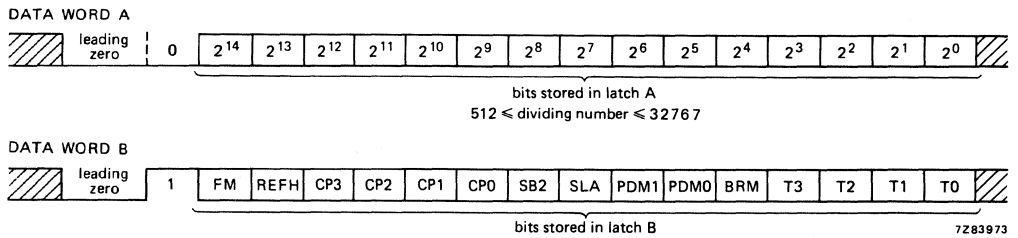

Fig. 3 Bit organization of data words A and B.
- BUS; this circuitry consists of a format control part, a 16-bit shift register and two 15-bit latches. Latch A contains the to be tuned frequency information in a binary code. This binary-coded number, multiplied by the tuning spacing, is equal to the synthesized frequency. The programmable divider (without the fixed divide-by-10 prescaler for FM) can be programmed in a range between 512 and 32 767 (see Fig. 3). Latch B contains the control information.
The following functions can be controlled with the data word bits in latch B. For data word format and bit position see Fig. 3.